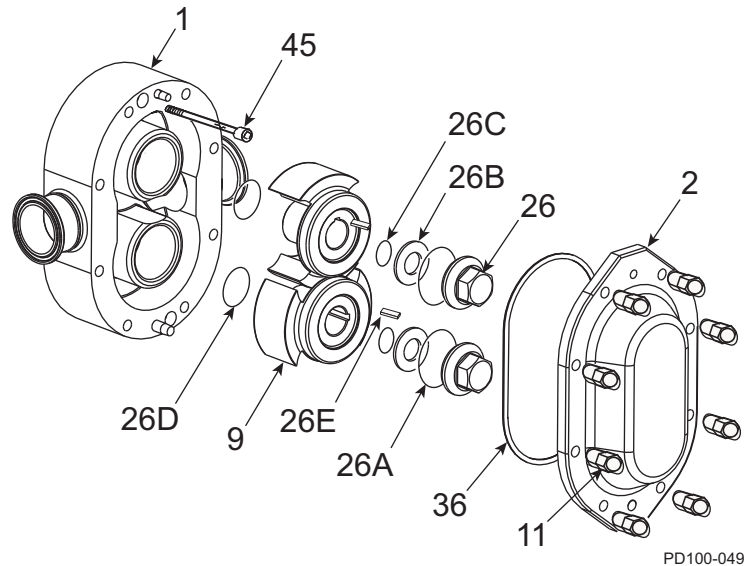
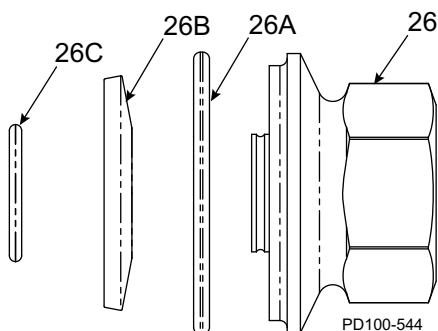
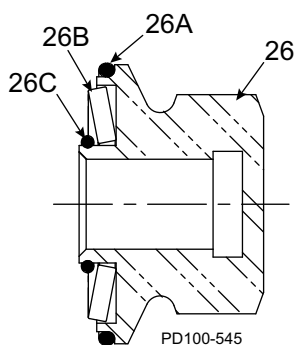

Figure 69 - Exploded View of Fluid Head
Figure 70 - Rotor Nut Assembly
Figure 71 - Cross-Section View of Rotor Nut Assembly, as Assembled
- Install the body (Figure 69, item 1) to the gear case assembly, aligning the body with the body studs. Avoid damaging the seals as the body is drawn over the shafts.
- Secure the body to the gear case using two cap screws (Figure 69, item 45).
- Lubricate the rotor hub O-ring (Figure 69, item 26D) with a lubrication compound compatible with the O-ring material and process fluid(s).
- Install new rotor hub O-rings (item 26D) into the groove on the rotor hubs.
- Install the rotors (item 9) onto the shafts.
- Align the keyways in the rotors with the keyways on the shafts and install the keys (item 26E).
NOTE: For rotor nut assembly detail, including orientation of the Belleville-style washer (item 26B), see Figure 70 and Figure 71 on page 50.
See Figure 69 on page 49, and Figure 70 and Figure 71 on this page.
1. Clean the cover O-ring (See Figure 69 on page 49, item 36) and install it in the groove in the cover.
3. Install the cover (See Figure 69 on page 49, item 2) on the pump body.
5. Tighten the cover securely using the cover nuts (See Figure 69 on page 49, item 11) and Table 12.